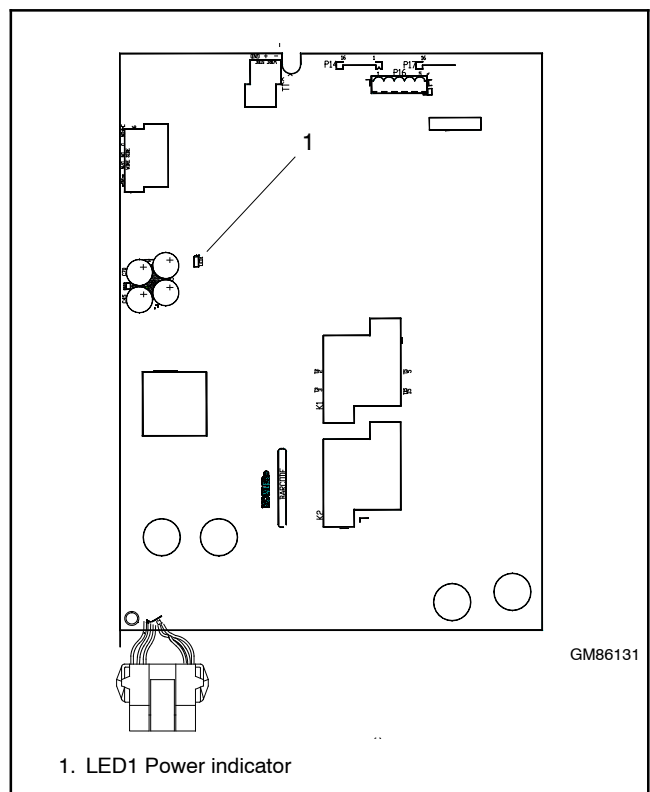

Figure 4-7 LED1 Location on MPAC Controller Circuit Board
The controller converts AC line voltage to DC voltage. Line voltage or DC voltage from an external battery connected through an External Battery Supply Module (EBSM) will cause LED1 on the controller's power board to light. See Figure 4-7 for the LED location.
- If the Normal or Emergency source is available but the controller display is dark, check LED1 on the controller circuit board. See Figure 4-7. LED1 lights when voltage is available for the controller.